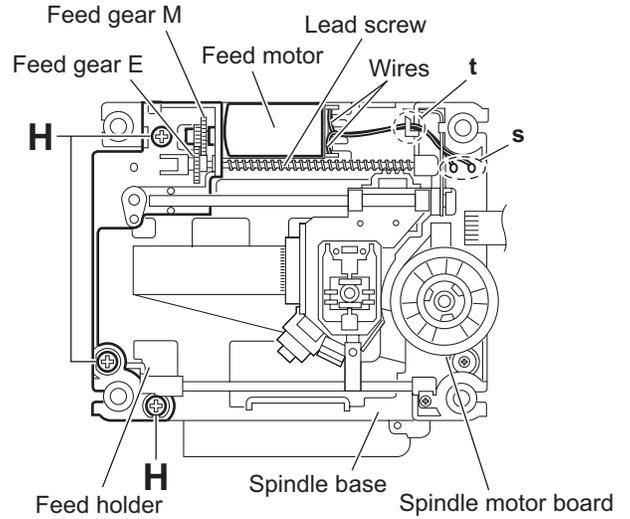

Fig.11
- (4) Remove the wires from the soldered section **s** on the spindle motor board. (See Fig.11.)
When attaching the feed motor, pass the wire through the section **t** on the spindle base. (See Fig.11.)
- (5) Remove the feed holder, feed motor, lead screw, feed gear E and feed gear M at the same time after removing the three screws **H** attaching the feed holder. (See Fig.11.)
### 3.2.8 Removing the spindle motor board (See Figs.11 and 13)
- (1) From the top side of the traverse mechanism assembly, remove the wires from the soldered section **s** on the spindle motor board. (See Fig.11.)